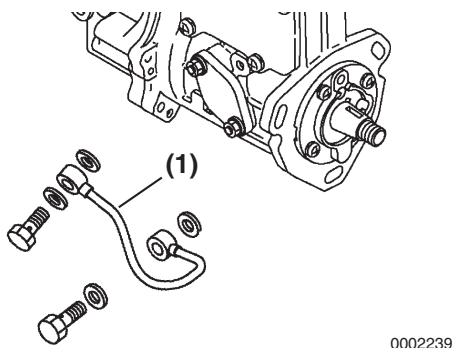

Figure 4-3-9
12. Remove the lube oil line (**Figure 4-3-9, (1)**) from the fuel injection pump and cylinder block.